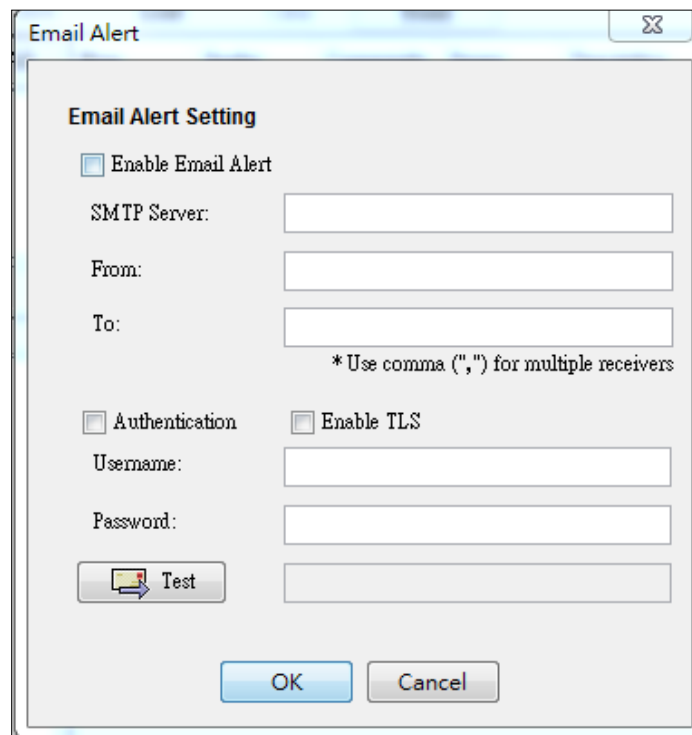

Figure 13-7
- **Email:** displays an “Email-Alert Settings” dialog box (see Figure 13-7). Fill the “SMTP server”, “From (email address)” and “To (email address)” fields. The “From” and “To” addresses must be valid in the SMTP server. If the SMTP server requires authentication, please enter the username and password. Once entering needed information, click the **Test** button to verify if your email works properly.